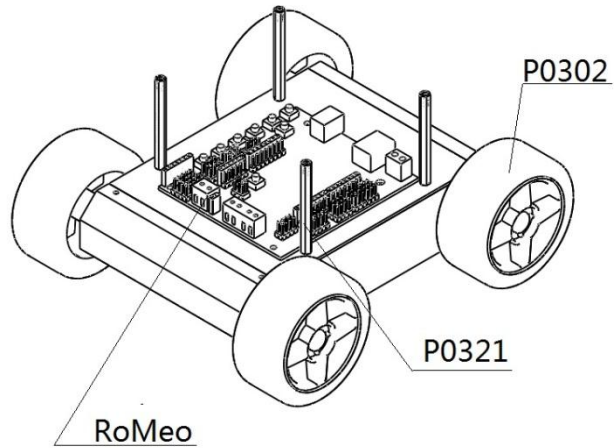

Figure 4-8
14. Figure 4-8; the copper stand-offs need to be mounted on the fuselage's upper plate in order to support the top plate.